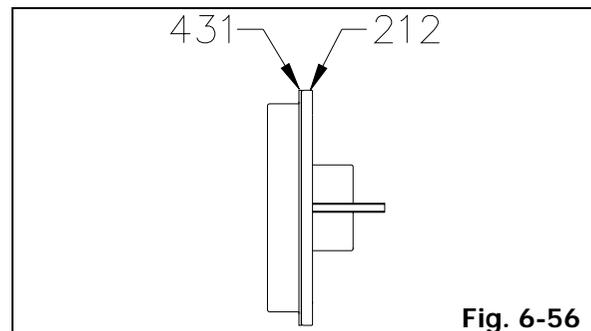

Fig. 6-56
1. Install two (2) stuffing box cover studs and place stuffing box cover gasket (431) onto stuffing box cover (212) assembly (Fig. 6-56).